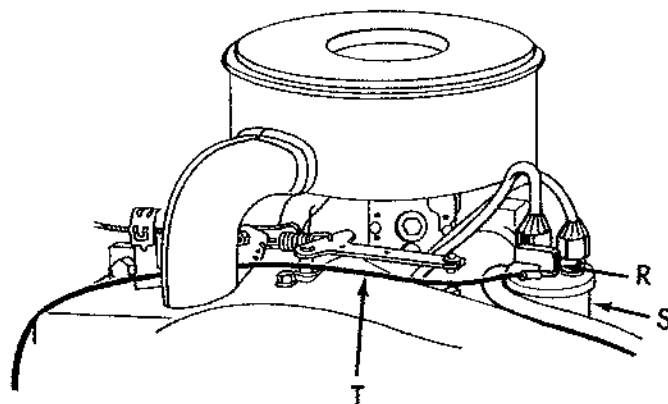

FIG. 10
9. For 16 HP Twin Cylinder engine lift up on terminal (R) to remove from coil (Figure 10). Place wire terminal eyelet (T) (wire found in plastic bag) on stud of coil. Now replace terminal (R) on coil stud.
10. Lay wire (T), on top of engine near fan housing and down in front of engine, under grill and connect to wire (L).